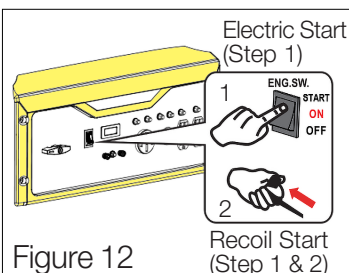

Figure 12
- For electric start, Push and hold the engine Start switch in the “Start” position. Do not hold the Start switch in the “Start” position for more than 15 seconds. Allow 1 minute between starting attempts. (fig. 12)
- For manual start, turn the engine Start switch to the “On” position. Pull the recoil starter grip slowly until resistance is felt, then pull rapidly. (See fig 12)